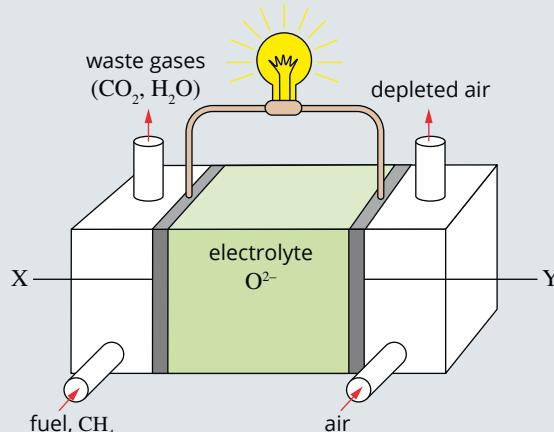

FIGURE 6.2.2 A ceramic fuel cell.
- 12 An Australian company developed a ceramic fuel cell. Instead of a liquid electrolyte, the cell uses a ceramic electrolyte through which oxide ions (O^{2-}) can move. The fuel cells are designed so that the fuel and air are directed separately onto the appropriate electrode. The diagram in Figure 6.2.2 represents a ceramic fuel cell that uses methane gas (CH_4) as the energy source. The electrode reactions are: